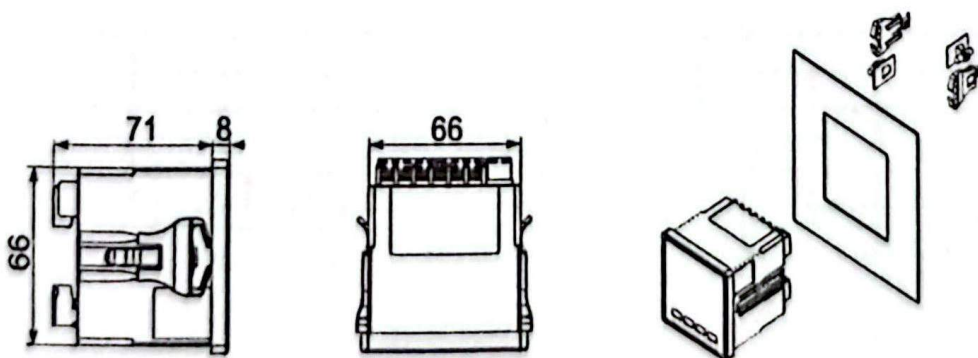

Fig.3
4.3 Panel Size(mm): 72×72 Hole Size(mm): 67×67 Depth(mm): 71 (See Fig.3)